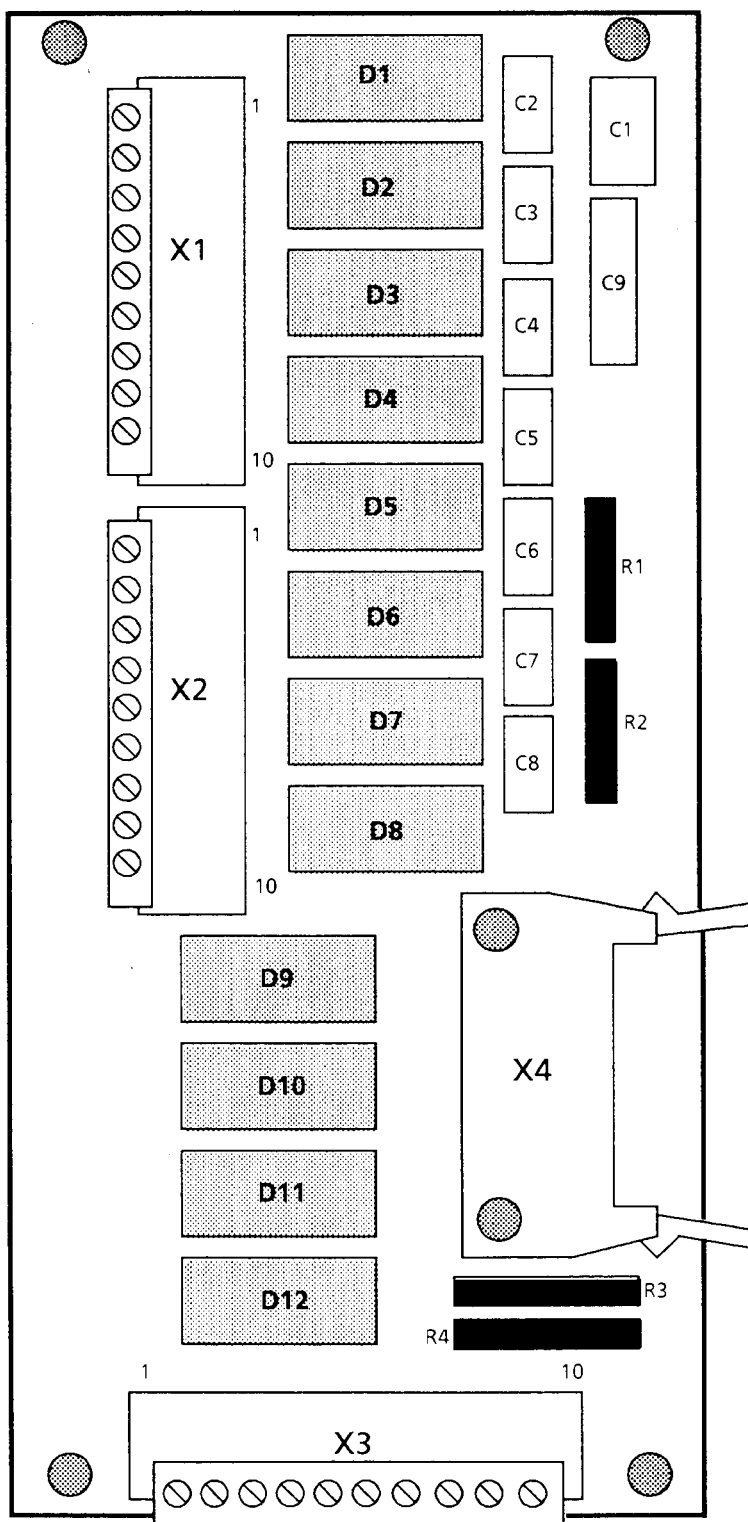

Figure 3-36. A.C. Connection Card (SAFT 146 ACC/3500 - AC1)
- 3-2.4.10.3 A.C. Connection Card** - The A.C. Connection Card (Figure 3-36 & 37) is used when the drive will be controlled by external 110V AC digital signals. The card contains eight (8) inputs for 90-135 VAC and four (4) digital outputs with 110 V ratings (1 ampere max load, non - inductive).